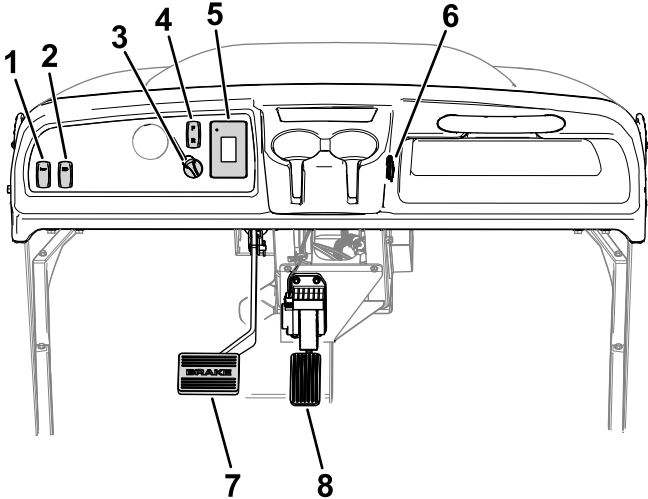

Figure 5
**Note:** The steering wheel is removed from Figure 5 for clarity.
The direction selector (Figure 5) has 2 positions: FORWARD and REVERSE.
Press the horn switch (Figure 5) to sound the horn.
Use the light switch (Figure 5) to illuminate the headlights. Push the light switch up to turn on the headlights. Push the light switch down to turn off the lights.
Use the USB port (Figure 5) to power mobile devices.
Use the key switch (Figure 5) to run and shut off the machine or put the machine into TRANSPORT mode.